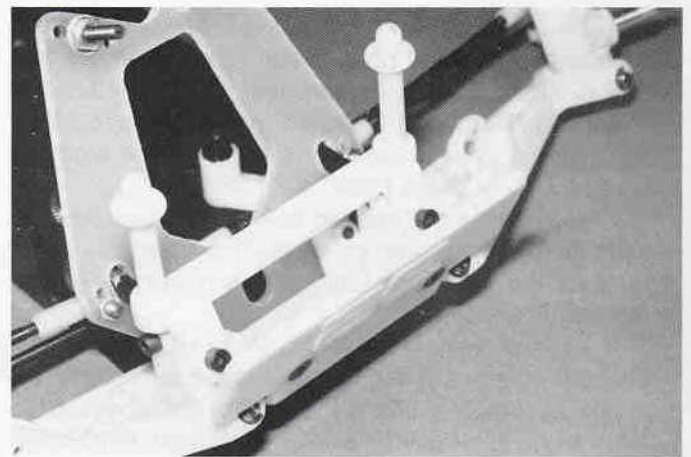

**Fig. 39**
□ **Figs. 39, 40 & 40A** (1) Locate bag #7-5 then remove body mount tree. (Fig. 39 shows the location of the front and rear body mounts on the parts tree.) (2) Remove the two #7319 front body mounts. (3) Go back to bag #7-5 and remove the #7318 front body mount brace and the two #6918 4-40 x 1/2" BHSScrews. (4) Using the two #6918 screws, mount the #7319 front body mounts onto the #7318 front body mount brace as shown in fig. 40. **Note:** Install a #6332 body clip in its mounting hole to hold the mount while you tighten the screw. (5) The small body clip holes should point to the left and right. (6) Tighten the screws, but not too tight. (7) Now we install the front body mount brace assembly to the front bulkhead. Take two #6924 4-40 x 3/8" SHCScrews from bag #7-5. (8) Install the body mount brace over the front bulkhead, facing towards the back. This will put the body mounts over the bulkhead as well and they will be pointing straight up, not at an angle, when properly installed as shown in fig. 40A.